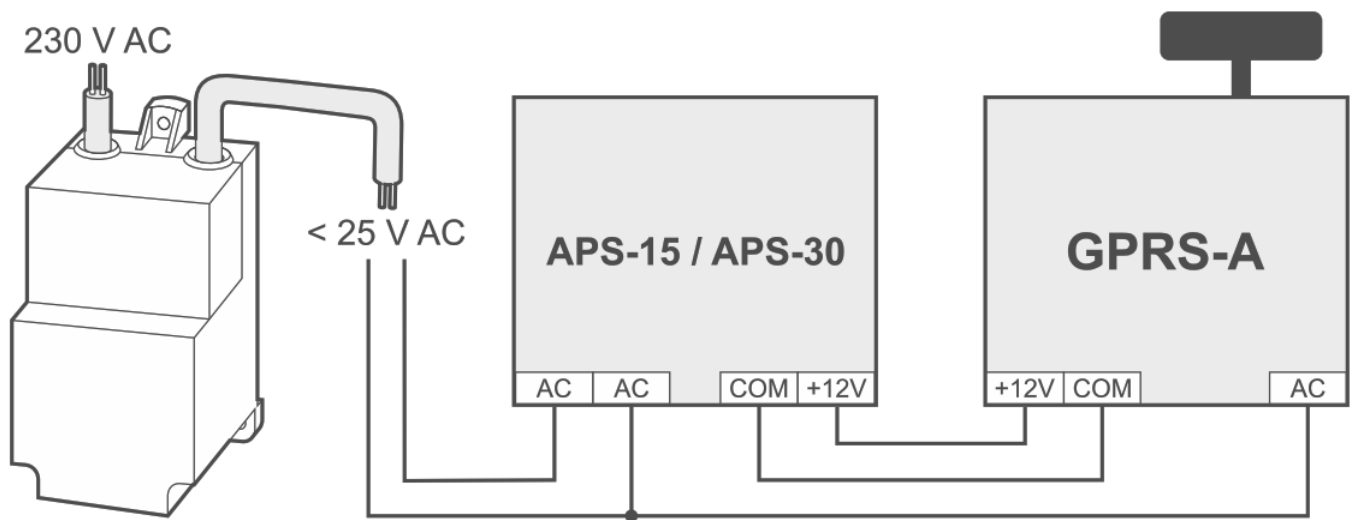

Fig. 2. Example of connecting supply and monitoring AC voltage presence if the module is powered from SATEL APS-15 / APS-30 power supply unit.
2. If the module is to be powered from the SATEL APS-15 or APS-30 power supply, you can connect to the AC input terminal the wire from the secondary winding of the transformer which supplies the AC voltage to the power supply (Fig. 2). This will enable the GPRS-A module to supervise the presence of AC voltage.